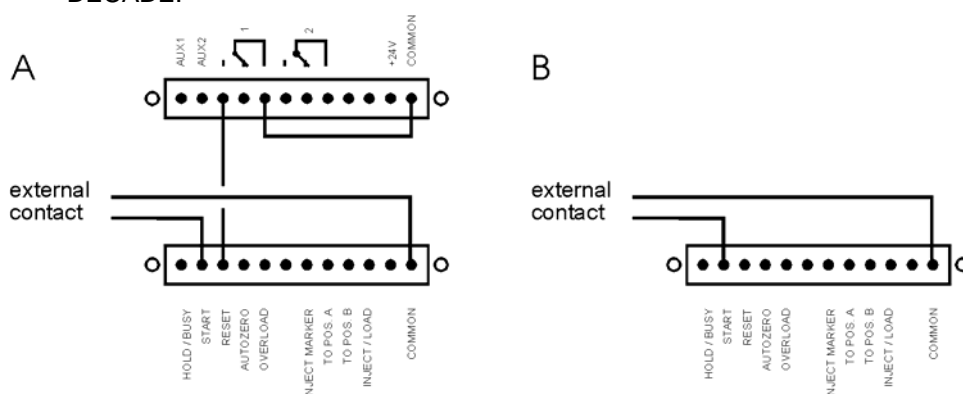

Fig. 13. Input contacts needed for external control of the DECADE (slave mode) A: until DECADE software version 3.00 and B: from version 3.00 and higher .
1. Connect a hardware trigger of the autosampler to 'START' on the rear panel of the DECADE as indicated in Fig. 13. A contact closure is
7. By pressing RUN the system is ready for automated operation. The time file is started by an external contact closure from the autosampler (Fig. 13). The duration of this contact closure must be at least 100 ms. Each time a run is started the 'AUTO RUN' screen appears. After the 'RESET' command (via relay1), the 'AUTO SET' screen is displayed.
There are at least two ways to activate a contact by TTL-low. This can be done by making a contact closure of the input with common (see Fig. 13, 'START' command) or by using an external TTL contact which is made low (see Fig. 13, 'RESET' command). In the latter case it is important that the status of the external contact is known, and that the apparatus is connected to the same ground (by the mains power supply) as the DECADE.